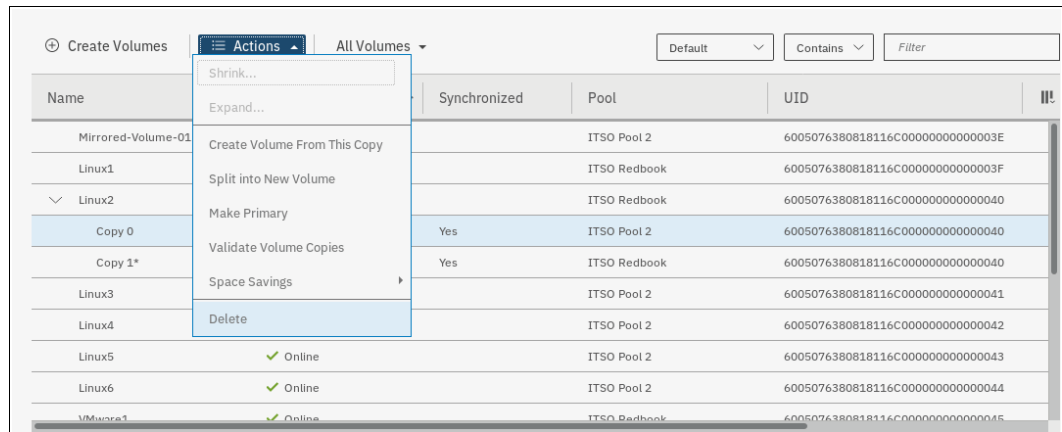

Figure 6-52 Deleting the older copy
6. Delete the old copy from the volume, as shown in Figure 6-52.